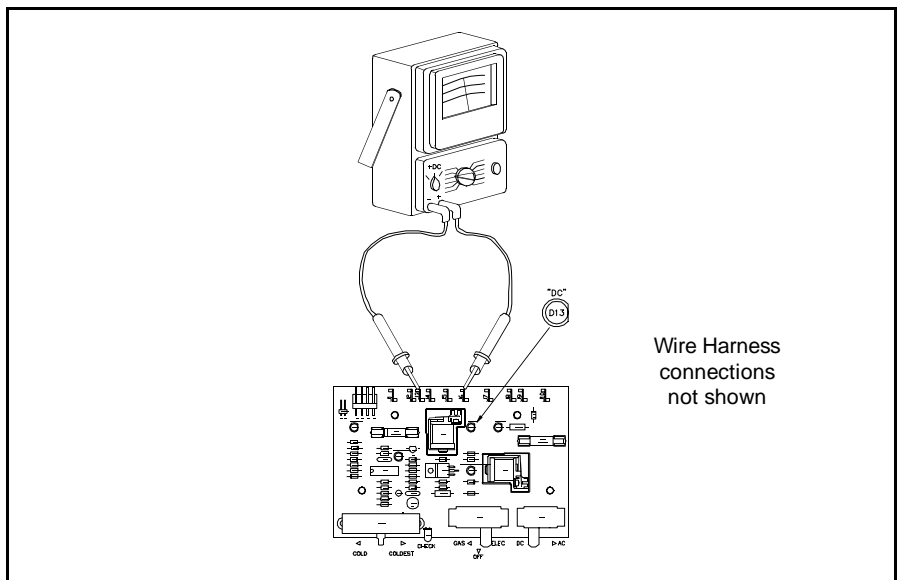

Figure 4.57 "DC" L.E.D. Location
9. The "DC" L.E.D. must be on as shown in Figure 4.57.